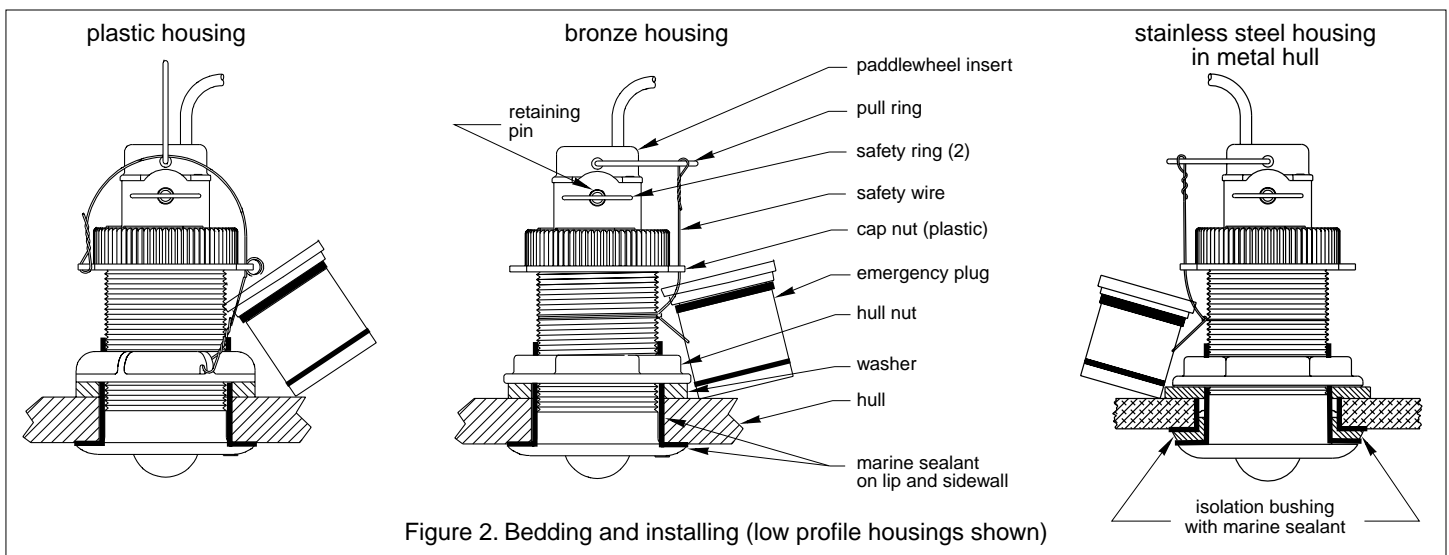
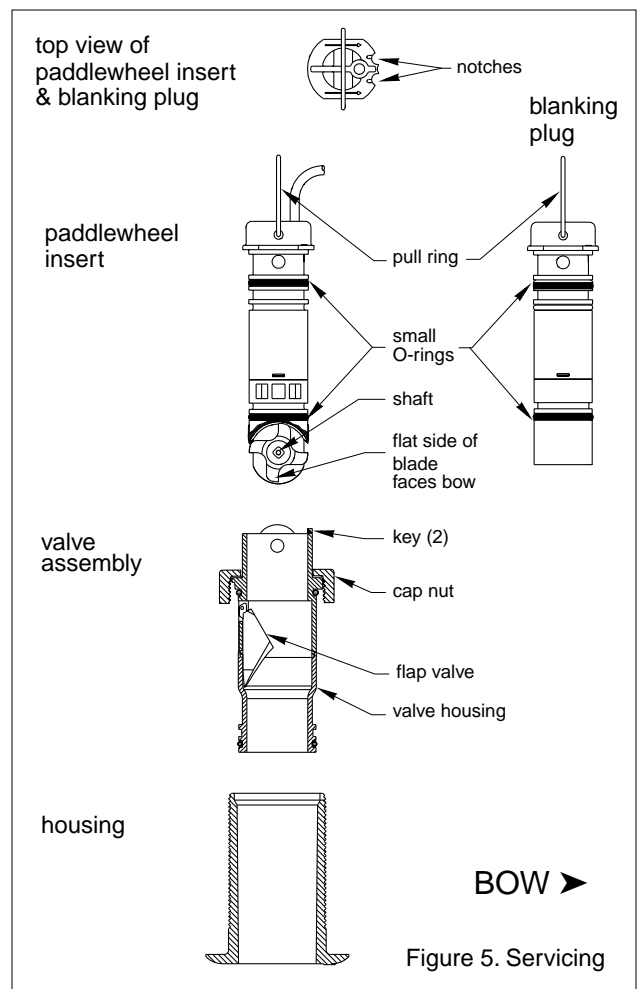

Figure 2. Bedding and installing (low profile housings shown)
Figure 5. Servicing
Apply a 2mm (1/16") thick layer of marine sealant around the lip of the housing that contacts the hull and up the sidewall of the housing. The sealant *must* extend 6mm (1/4") higher than the combined thickness of the hull, washer(s), and hull nut (see Figure 2). This will ensure there is sealant in the threads to seal the hull and to hold the hull nut securely in place.
1. From outside the hull, push the housing into the mounting hole using a twisting motion to squeeze out excess sealant (see Figure 2). *Align the arrow on the lip of the housing to point forward toward the bow.* If the sensor is not installed on the centerline, angle the housing slightly toward the centerline to align it with the water flow.
8. Attach one pull ring to the paddlewheel insert (see Figure 5). Similarly, attach a pull ring to the blanking plug.
11. Attach one safety ring to one end of the retaining pin. Slide the retaining pin through the valve assembly and paddlewheel insert. Attach the second safety ring to the retaining pin (see Figure 2).
- Inspect the O-rings on the *long* blanking plug (replace if necessary) and lubricate them with the silicone lubricant supplied or petroleum jelly (Vaseline®) (see Figure 5).
**Do not remove the cap nut** (see Figure 2).
- Slide the *long* blanking plug into the housing with the arrows on the top pointing forward toward the bow. Seat it into place with a pushing twisting motion until the keys fit into the notches (see Figure 5). Secure it with the retaining pin, safety rings, and safety wire (see Figure 2).
1. Using the new paddlewheel shaft, push the old shaft out about 6mm (1/4"). With pliers, remove the old shaft (see Figure 5).
1. Remove the **short** emergency plug from the safety wire (see Figure 2).
7. Clean, repair, or replace the valve assembly, so the flap valve moves freely and seats against the valve housing (see Figure 5).
10. Re-install the paddlewheel insert and secure it with the retaining pin and safety rings. Attach the safety wire to the short emergency plug, the cap nut, and pull ring (see Figure 2).